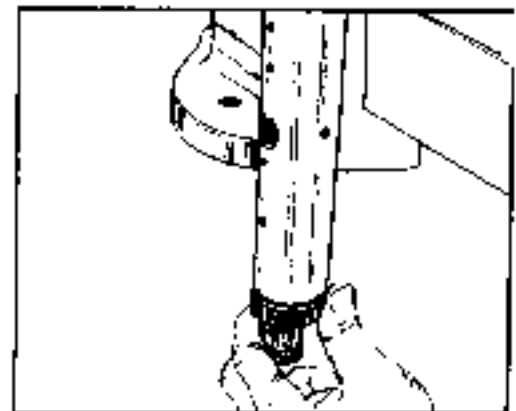

FIGURE 93.
42. Apply a small amount of clean grease on the tip of the seal (39). Install the seal onto the jacket tube and input shaft/wheel tube. See figure 93.